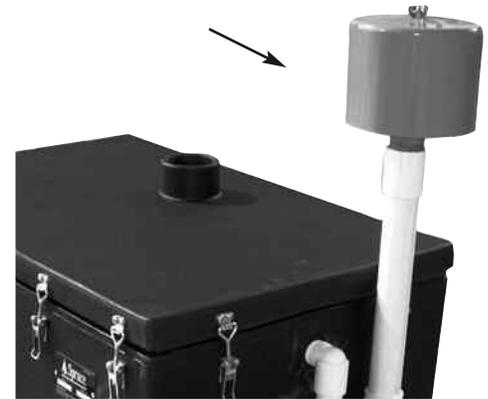

Figure 11
2.6 Install Air Filter (Figure 11)